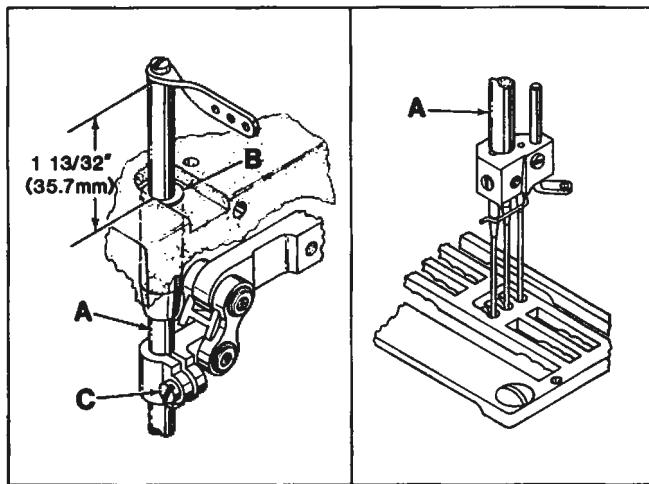
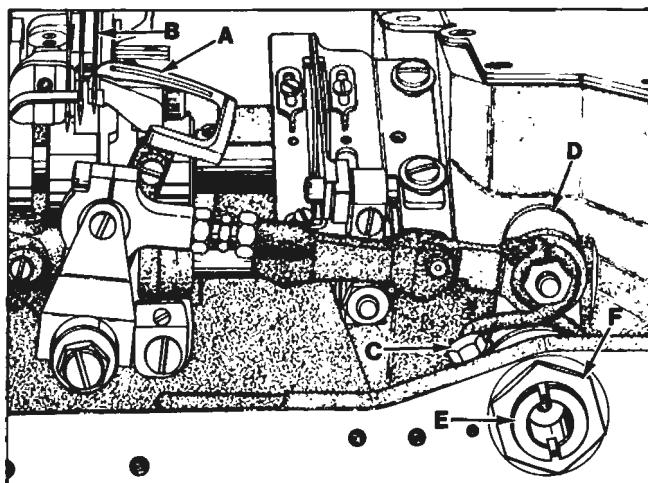
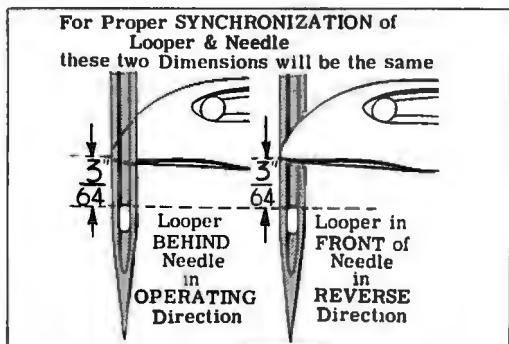

Fig. 3
Fig. 4
Fig. 5
Insert a new set of needles (type and size required). With needle bar (A, Fig. 3) at TOP of its stroke, check to ensure an approximate setting of  $1 \frac{13}{32}$  inch (35.7mm) from top of needle bar to top of needle bar bushing (B). Adjustment can be made by loosening clamp screw (C) and moving needle bar up or down, re-tighten screw (C) TEMPORARILY. Turn handwheel to bring needle bar down to ensure that needles center in needle holes of throat plate as shown in Fig. 3. Adjustment can be made by loosening screw (C) slightly, allowing needle bar to be turned as required, being careful not to change the temporary height setting. Tighten clamp screw. Re-check temporary height setting.
Insert looper into the looper rocker, pushing it all the way down and tighten screw against flat on shank of looper. Turn handwheel in the operating direction until the point of the looper (A, Fig. 4) moving to the left, is even with the left side of right needle (B). Note the height of the eye of the needle with respect to the looper point (See Fig. 5). Turn the handwheel in the reverse direction until the point of the looper again moving to the left, is even with the left side of right needle (See Fig. 5). If the height of the eye of the needle with respect to the looper point are the same, looper and needle motions are synchronized - a variation of .005 inch (.127mm) is allowable.
**NOTE:** The 3/64 inch (1.2mm) dimension shown in Fig. 5 is for final setting of needle bar height.
Turn handwheel in operating direction until point of looper is flush with the left side of right needle. Final setting is 3/64 inch (1.2mm) between top of needle's eye and bottom surface of looper (See Fig. 5). If adjustment is required, loosen screw (C, Fig. 3) move needle bar CAREFULLY up or down, not to disturb alignment of same. Retighten screw (C) and check to ensure that needles center in needle holes of throat plate.